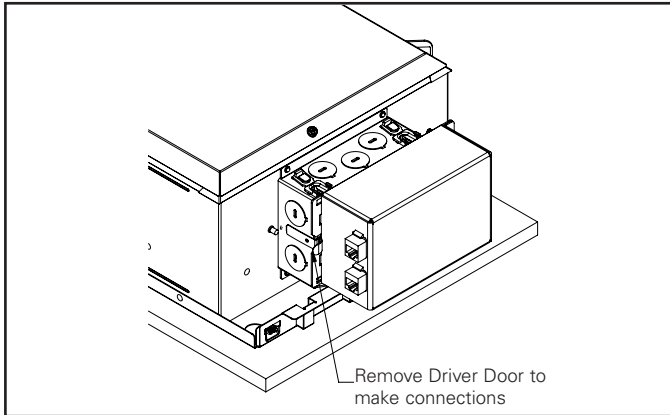

Figure 11.
1. Remove the outer JBOX cover Fig 11 (driver attached to cover).